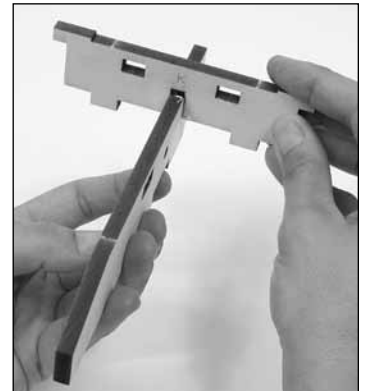
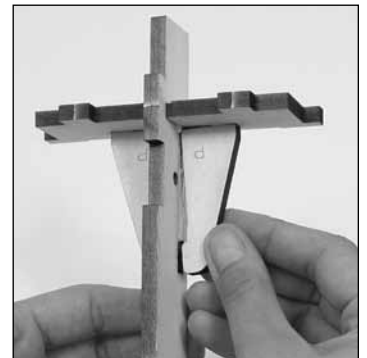

Figure 12a
Figure 12b
6. Locate Parts K, L, and P. Parts K and L each have a long, narrow notch that will allow you to fit them together like a cross (Figure 12a). Glue this together and wipe away any excess glue. Now, take one P and glue its two notches into the angle on one side of the cross – this should be on the long side. Repeat on the other side with the second P (Figure 12b). These parts will look like mirror images when they are glued together correctly.